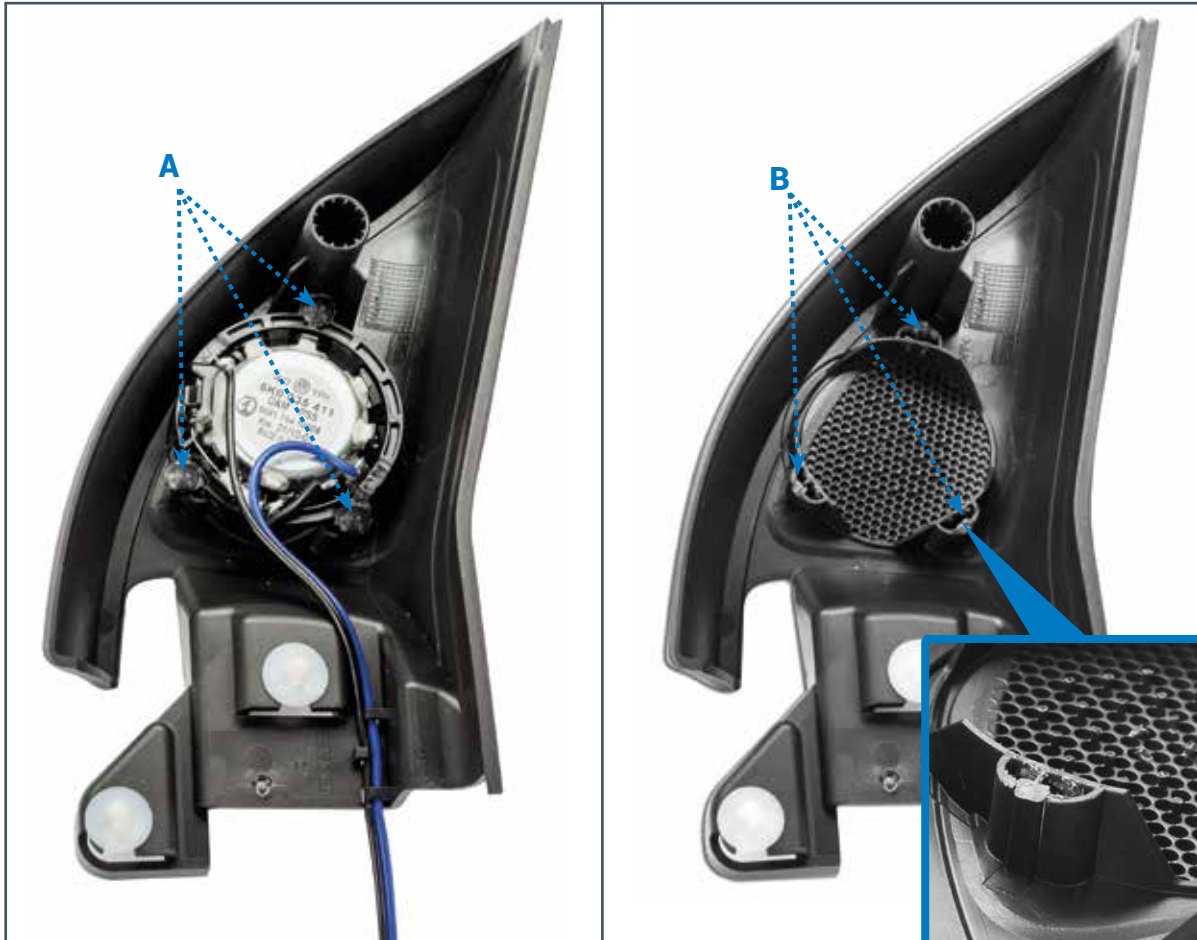

Fig. 29
11.1.1 Removing the three plastic seals to release the tweeter (Fig. 29 points A).
11.1.2 Remove the three plastic pins from the point shown in the figure. (Fig. 29 point B).